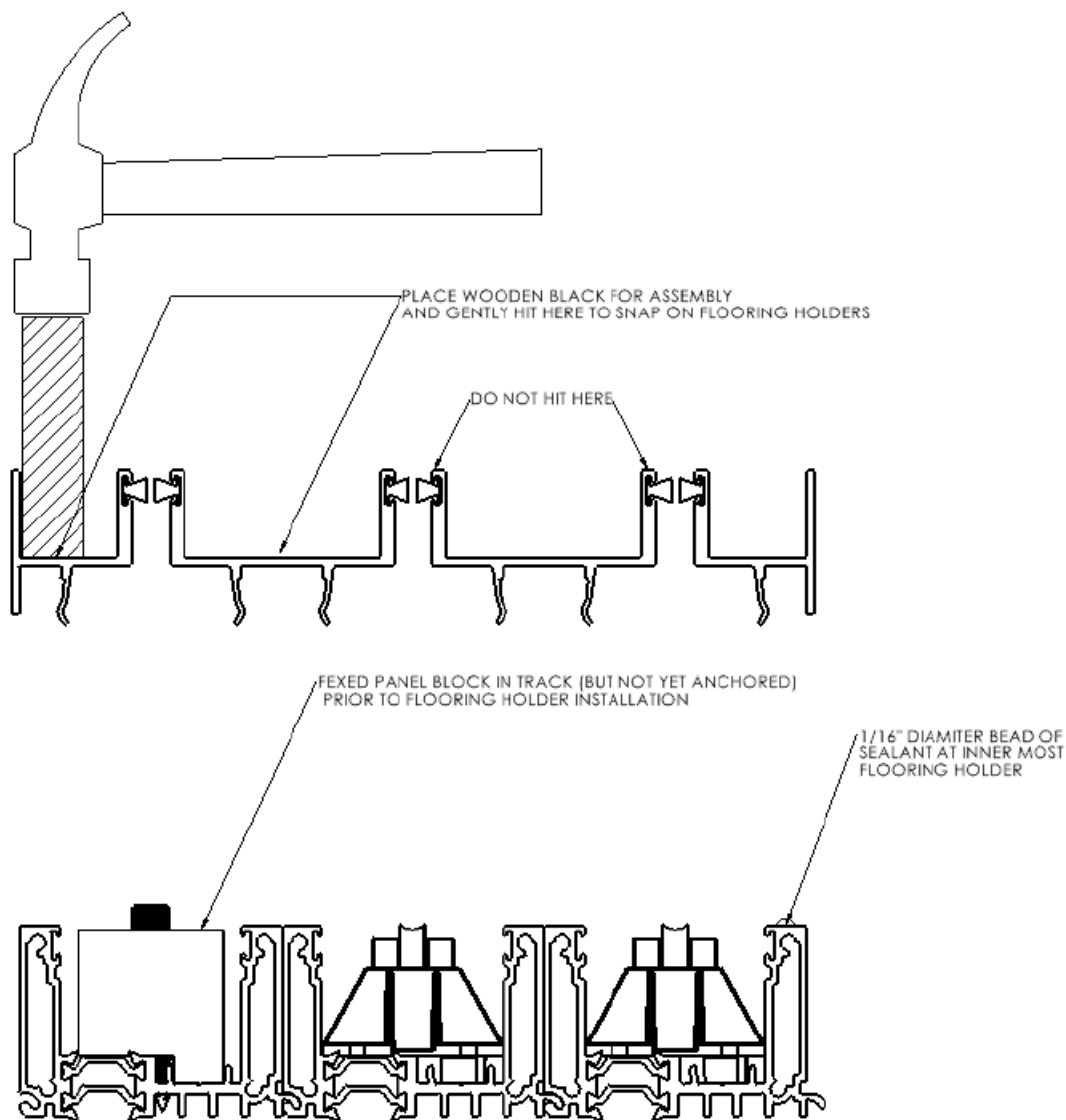

Figure 10
17. Snap the Flooring Holder extrusions onto the lower half of the sill with a block of wood and a hammer. Place the block of wood between the vertical legs of the flooring holder to avoid damage. Start at one end of the extrusion and slowly work down the length of the whole sill to avoid bending the flooring holders. The flooring holders can be ordered long to allow them to be cut to shorter lengths at installation to allow for easier service based on flooring types. See **Figure 10**.